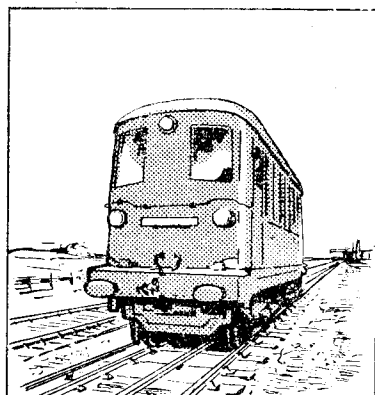

Fig. 9
Assume that we photograph an electric locomotive, 30 ft. long, and the effect obtained is as in Fig. 9. The perspective is such that the further end appears half the size of the nearer end—indicating that the camera was twice as far away, i.e. 30 ft. from the cab front. The plan view of the arrangements is as in Fig. 10 (a), and assuming we use a lens of 6 in. focal length the image distance ( $v$ ) of the front end will be from (2)